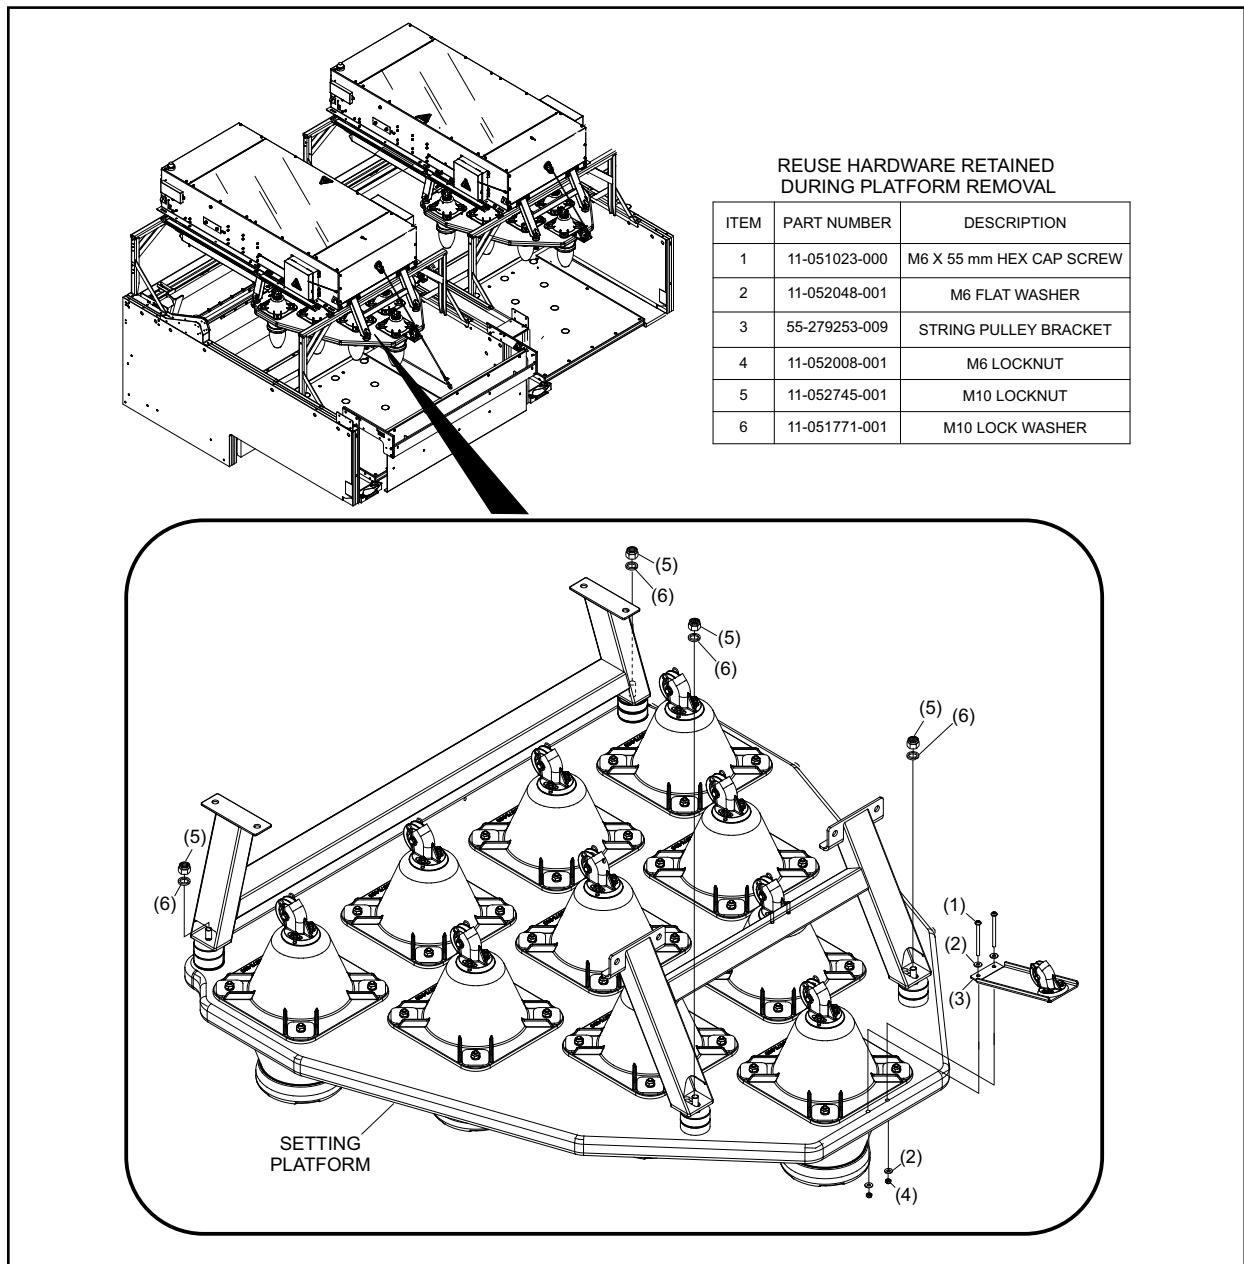

Figure 7. Install Setting Platform
8. Using the hardware retained in step 4, secure the setting platform to the front and rear table mounting frames and the string pulley/bracket to the front of the setting platform, Reattach the gate string carabiner to the gate. Refer to *Figure 7*.